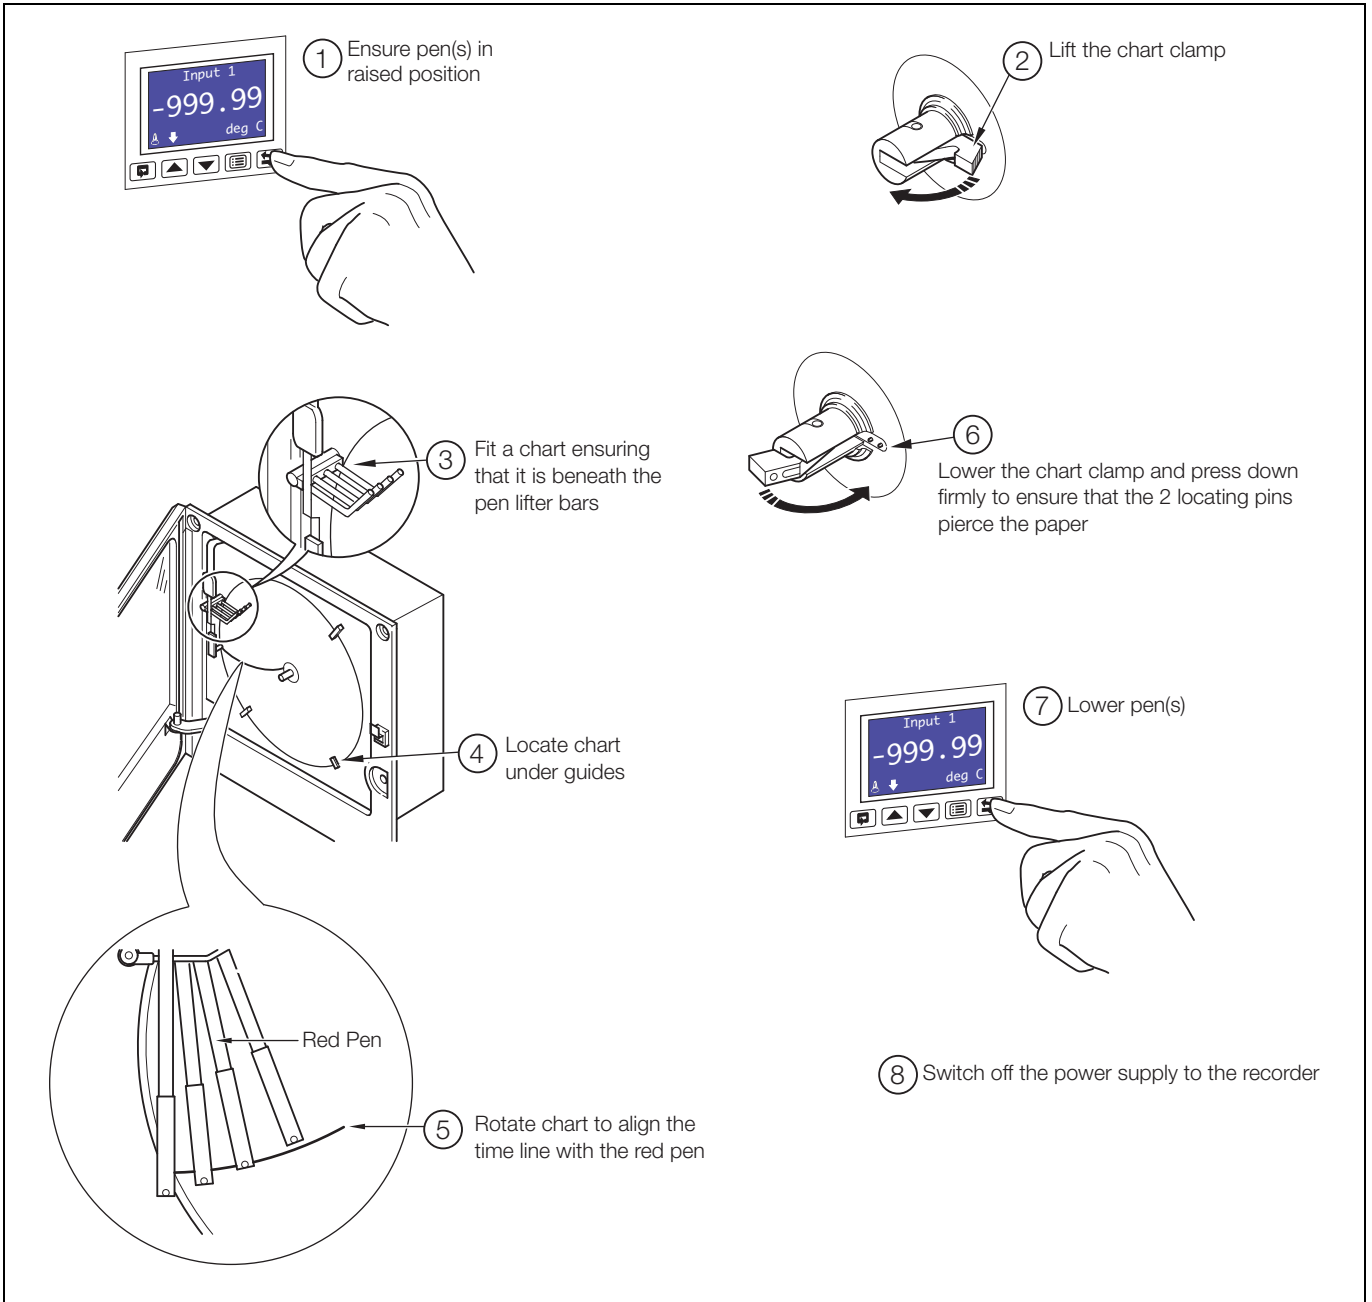

Fig. 1.2 Fitting a Chart
5. Fit a chart – see Fig. 1.2 on page 3.